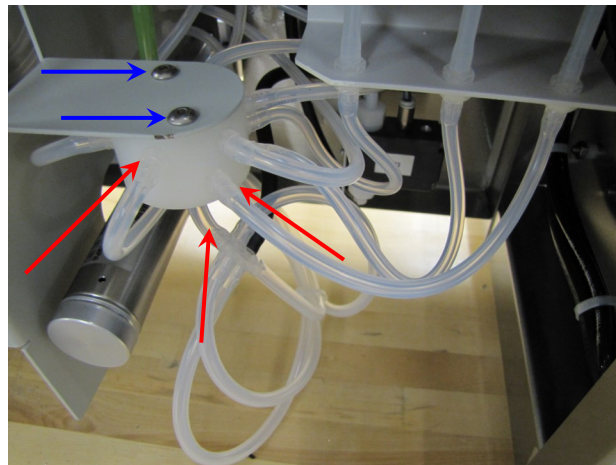

Figure 1
3. Reattach the new TDF31 Supply Manifold with the two screws using a 3/32" Allen Wrench as marked with the BLUE arrows in Figure 1.